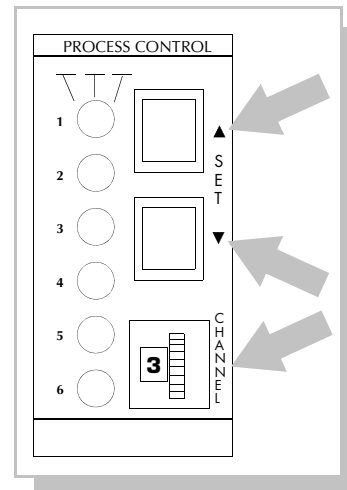

Figure 4-21 Process Control Module Showing Setpoint Set buttons and Channel Select Thumbwheel.
2. Press and hold the SET button for the direction you wish the setpoint to change; ▲ to raise the setpoint; ▼ to lower it. See Figure 4-21.